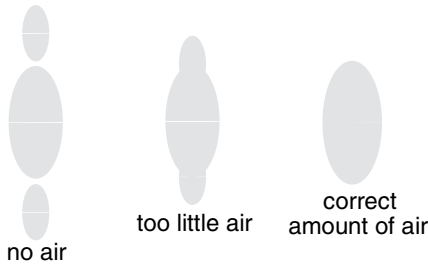

FIG. 8. Spray Pattern Problems
- See FIG. 8. Set atomizing air pressure at about 5 psi (0.35 bar, 35 kPa) when triggered. Check spray pattern, then slowly increase air pressure until tails are completely atomized and pulled into spray pattern. Do not exceed 100 psi (0.7 MPa, 7 bar) air pressure to gun.